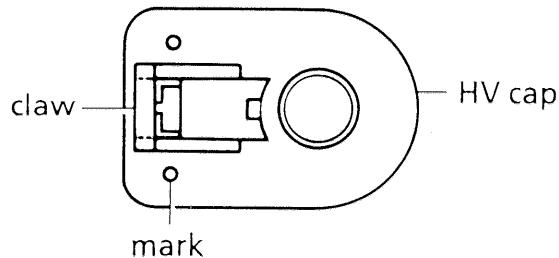

**Fig. 6**
- (1) Insert a small flat-bladed screwdriver (adjustment screwdriver : 5 - 7 mm wide and 0.2 - 0.3 mm thick) into section **A** in Fig.6 and then push it in the direction of arrow **B**. The lock will release with a click. (The state in Fig.8 - (1) will change to that in Fig.8 - (2).)